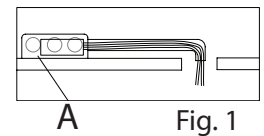
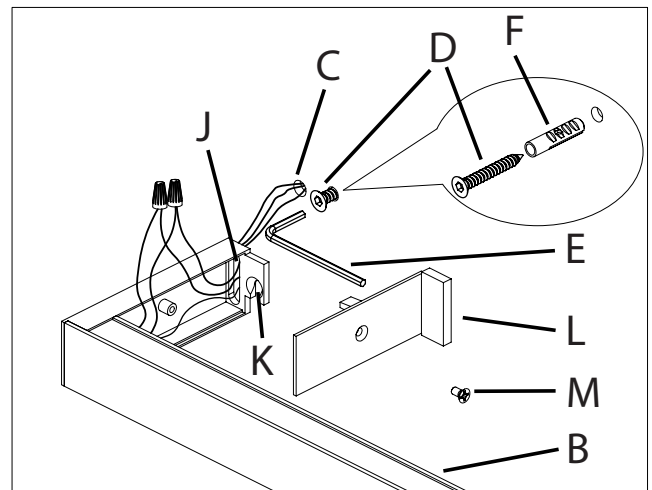

Fig. 1
Fig. 2
2. The LED driver (A) must be installed in a remote and accessible location near the fixture in accordance with local electrical code (Fig. 1).
- c. Connect the LED driver's positive (+) output wire to the necessary length of red wire (not included) to reach the fixture (B) location.
3. Using the fixture (B) as a template, drill a small 1/4" hole (C) in the wall behind the fixture at one end, and pull the low voltage wires through the wall. Repeat for the second LED driver (A) at the other end. (Fig. 2)
**OPTIONAL:** For horizontal mounting, install center bracket (G) with mounting Phillips pan head screw (H) and anchor (F), in line with the end mounting screws, and centered on the fixture. (Fig. 2, 3)
5. Pull the LED Drivers' (A) positive (+) and negative (-) wires and route through the wire slots (J) on both ends of the fixture (B).
6. Hang fixture (B) on the hooks (K) and the center bracket (G) (Optional), secure fixture by tightening mounting Allen screws (D) using the provided Allen key (E). (Fig. 2)
- c. Carefully place the connections in the fixture's (B) end.
8. Slide in the covers (L) and secure with cover screws (M). (Fig. 2)